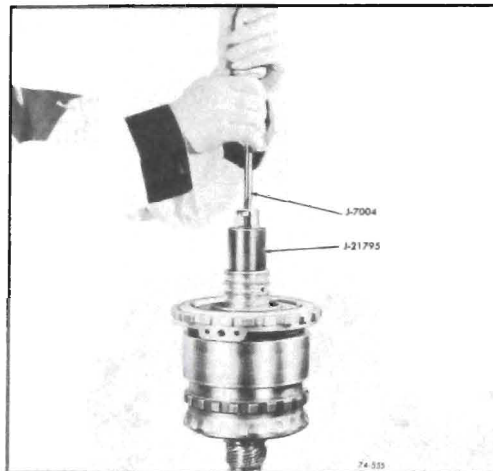

Figure 76-555
19. Place gear unit assembly with output shaft facing down in hole in work bench. See Figure 76-555.